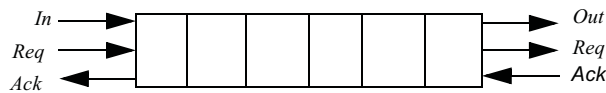

Figure 0.11 Overall structure of FIFO.
- 9. Design a self-timed FIFO. It should be six stages deep and have a two phase handshakin with the outside world. The black-box view of the FIFO is given in Figure 0.11.